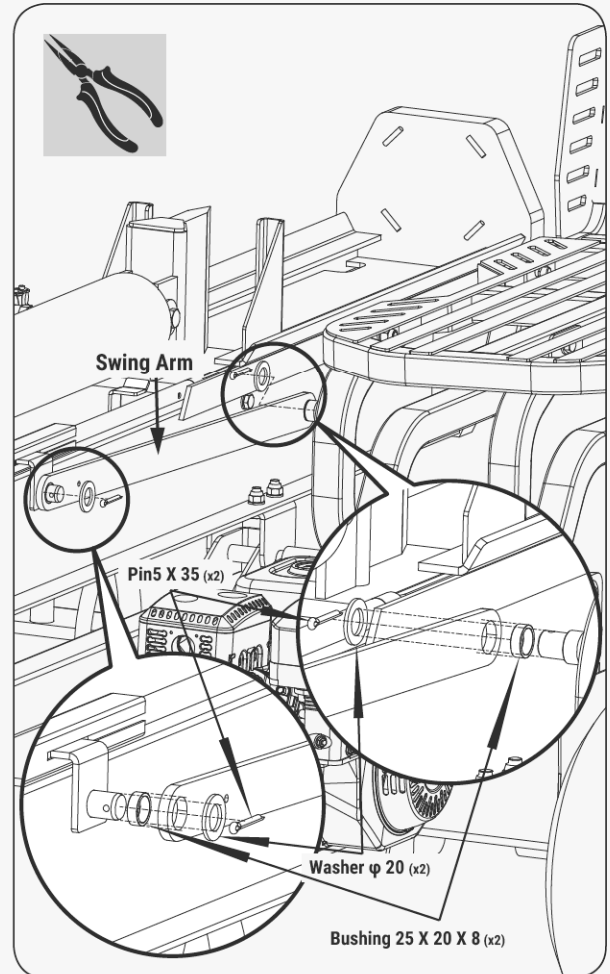

Figure 22
1. The front hole of the swing arm is fixed to the short shaft on the side of the left leg with bushing, washer and cotter pin. and the rear hole of the swing arm is fixed on the short shaft on the inside of the bending plate. The inner side is fixed with a bushing, a washer and a cotter pin. (See **Figure 22**.)